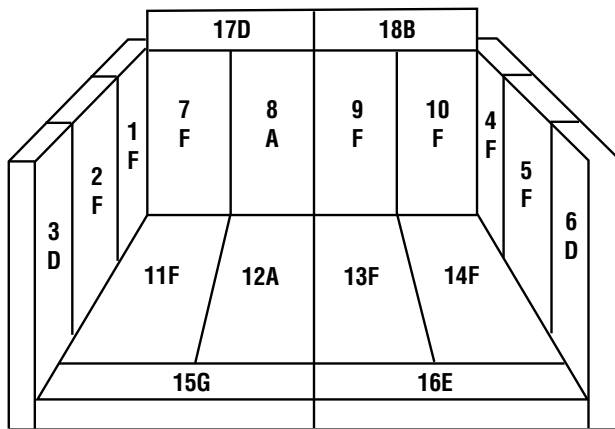

Figure 6
1. Install bricks #1-18 in the numbered sequence shown in **Figure 6** on **Page 12**.